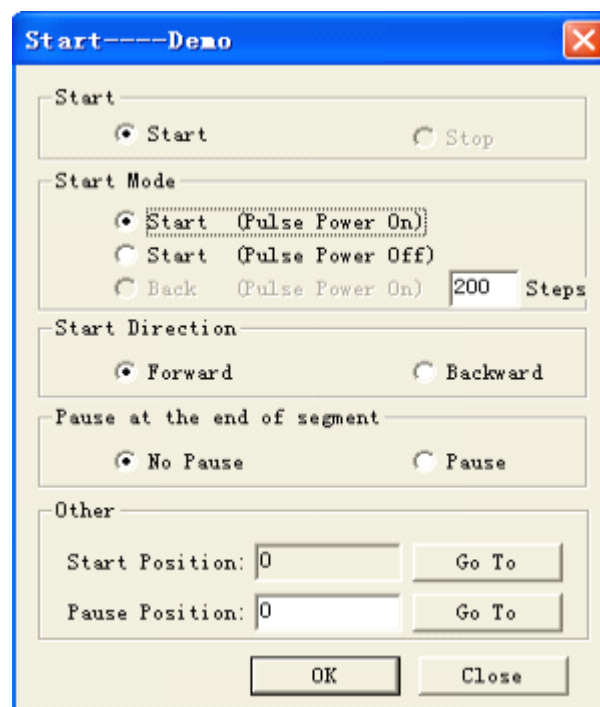

Figure 5.12: Start Processing
6) Startup picture (Figure 5.12): Control software can display the franchiser picture as startup picture when running the software, Display types include: not display, auto close after display the set time, continue display until manual close it.
After finishing the above selection, click the “OK” button to start processing, the originally “Start Process” button will display “Pause Process”, user can click the button when need pause the processing, the above dialog (Figure 5.12) will be displayed for user to deal with corresponding things.